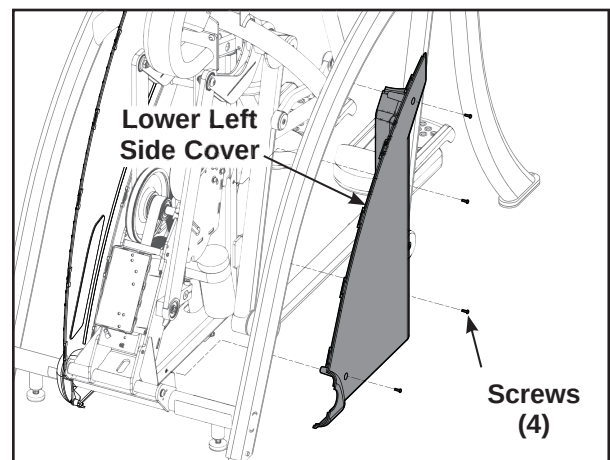

Figure 7
- A. Using a Phillips screwdriver, remove the four screws securing each of the lower side covers. See Figure 7.